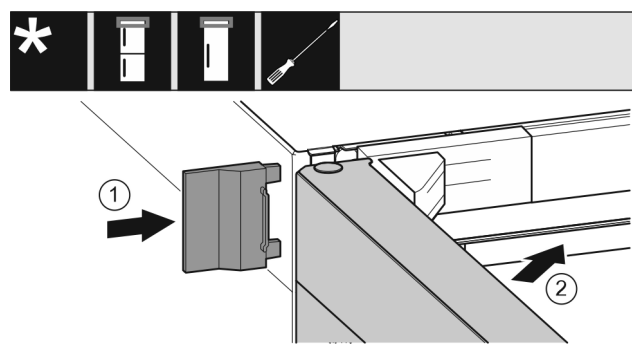

Fig. 23
- Slide on the outer cover. Fig. 23 (1)
- Close the upper door. Fig. 23 (2)